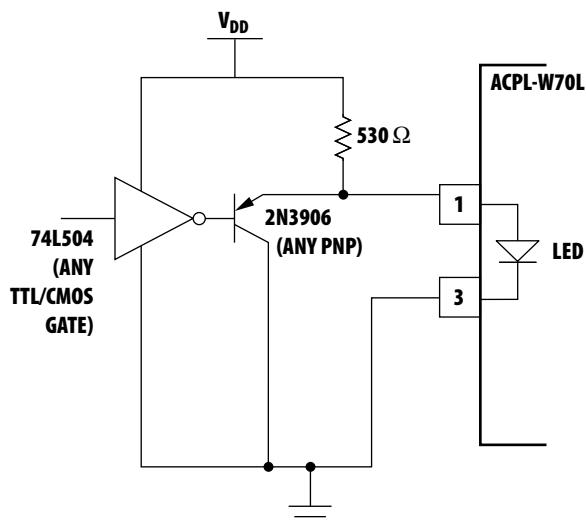

Figure 15. TTL interface circuit for the ACPL-W70L families.
1. Use of drive circuits where current is shunted from the LED in the LED "off" state (as shown in Figures 15 and 16). This is beneficial for good  $CM_H$ .
Using any one of the drive circuits in Figures 15-17 with  $I_F = 6\text{ mA}$  will result in a typical CMR of  $10\text{ kV}/\mu\text{s}$  for ACPL-W70L AND ACPL-K73L, as long as the PC board layout practices are followed. Figure 15 shows a circuit which can be used with any totem-pole-output TTL/LSTTL/HCMOS logic gate. The buffer PNP transistor allows the circuit to be used with logic devices which have low current-sinking capability. It also helps maintain the driving-gate power-supply current at a constant level to minimize ground shifting for other devices connected to the input-supply ground.